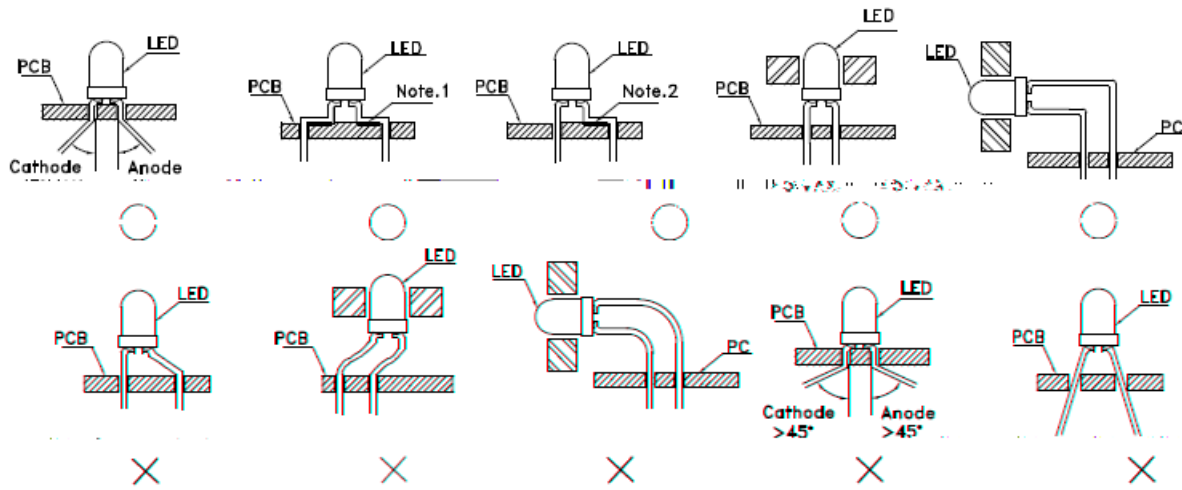

Figure 1
1. The lead pitch of the LED must match the pitch of the mounting holes on the PCB during component placement. Lead-forming may be required to insure the lead pitch matches the hole pitch. Refer to the figure below for proper lead forming procedures.(Fig.1)